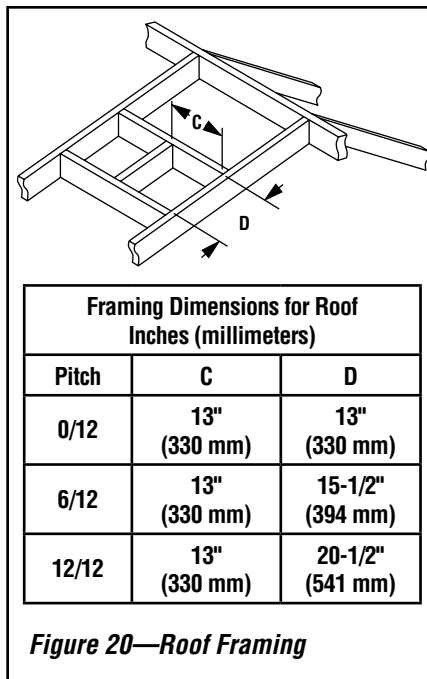

Figure 20—Roof Framing
Analyze the vent routing and determine the quantities of vent sections and number of elbows required. Refer to **Vertical Vent Figures and Tables on Page 18** to select the type of vertical installation desired. Vent sections are available in net lengths of 4-1/2" (114 mm), 10-1/2" (267 mm), 22-1/2" (572 mm), 34-1/2" (876 mm) and 46-1/2" (1181 mm). Refer to the **Vent Section Length Chart on Page 15** for an aid in selecting length combinations. Elbows are available in 90° and 45° configurations. Refer to **Figure 20 on Page 17** for the 8DVL45 and 8DVL90 elbow dimensional specifications.
H. Frame roof opening—Identify location for vent at the roof. Cut and/or frame opening per Roof Framing Chart (**Figure 20**).
Analyze the vent routing and determine the types and quantities of sections required 4-1/2" (114 mm), 10-1/2" (267 mm), 22-1/2" (572 mm), 34-1/2" (876 mm) and 46-1/2" (1181 mm) net section lengths are available. It is recommended that you plan the venting so that a joint does not occur in the ceiling or roof joists. Allow for elbows as indicated in **Figure 20 on Page 17**.